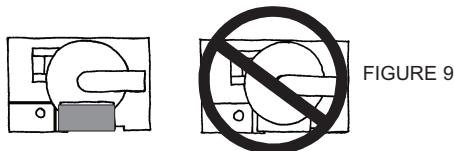

FIGURE 9
9. Close drain valve and completely refill fryer. Refer to Figure 9.